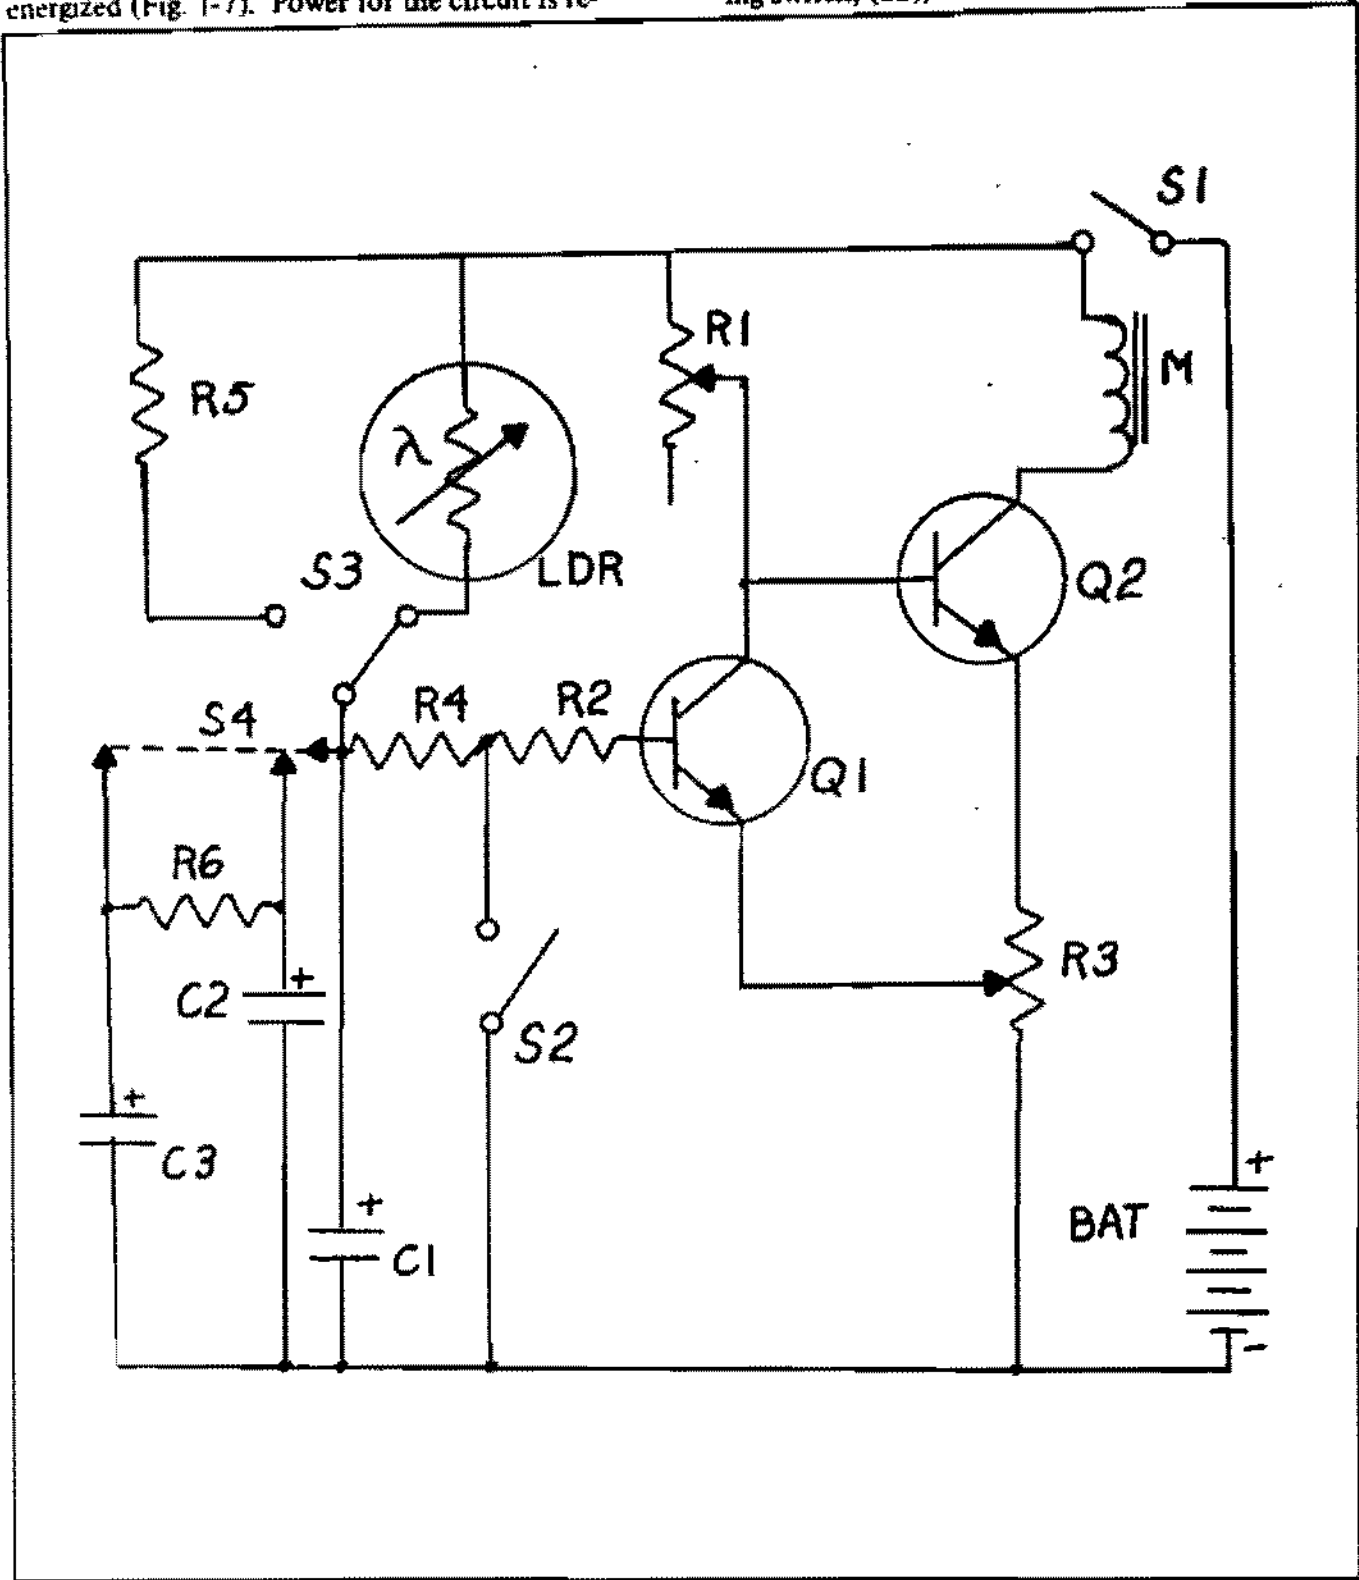
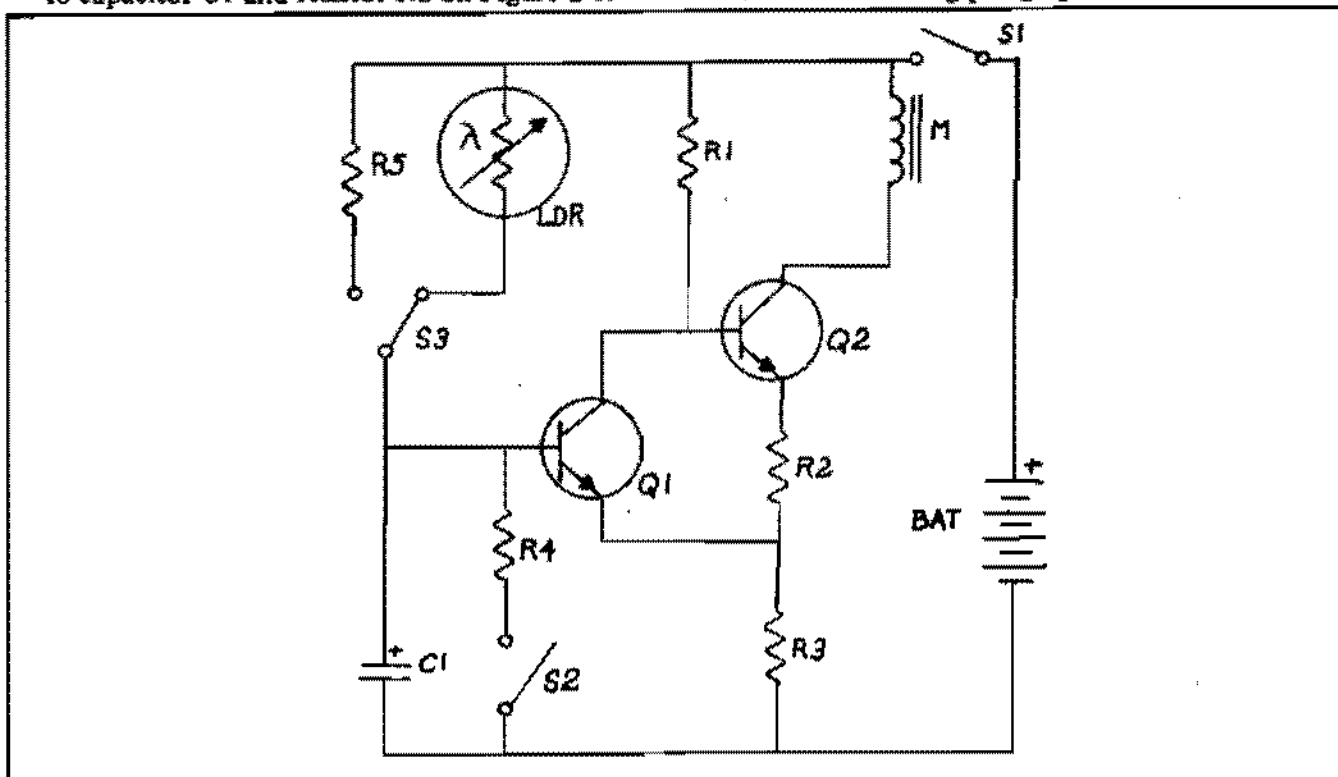
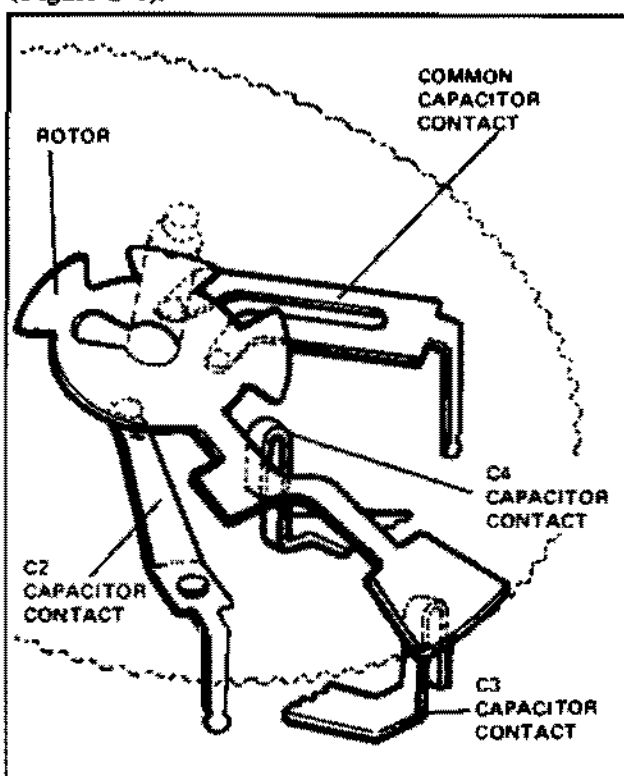

FIGURE 1-7 440/450 SHUTTER SCHEMATIC DIAGRAM
FIGURE 2-1 420/430 SHUTTER SCHEMATIC DIAGRAM
FIGURE 2-4 CAPACITOR SWITCH ROTOR
This circuit is referred to as a two transistor trigger; it utilizes a photoconductive cell to control the length of time that an electromagnet is energized (Fig. 1-7). Power for the circuit is re-
The electronic module for the Model 440/450 shutter is described in Section I. This shutter is employed in camera models 440 and 450 and is the more complex of the two shutters. Figure 2-1 is the schematic diagram of the simpler Model 420/430 shutter employed in camera models 420 and 430.
Comparison of Figures 1-7 and 2-1 will show the following differences:
1. Resistor R1 is variable on Figure 1-7 and fixed on Figure 2-1.
2. Variable resistor R3 on Figure 1-7 is replaced by two fixed resistors, R2 and R3, on Figure 2-1.
3. The resistor in series with the base of Q1 (R2 on Figure 1-7) has been deleted on Figure 2-1.
4. The time-determining components are limited to capacitor C1 and resistor R2 on Figure 2-1.
5. Capacitors C2 and C3, resistor R6, and switch S4 are not used on Figure 2-1.
The basic theory of operation is identical for the two circuits. The illumination-controlled photocell determines the length of time required to charge the R_c circuit (R4 and C1 on Figure 2-1). When the R_c circuit is charged, transistors Q1 and Q2 cut off the current flow through magnet M, and the shutter closing blade is released. The method by which these electronic functions are related to mechanical shutter operation is described in the following paragraphs.
In order to accommodate a wide latitude of film speeds and a variety of lighting situations, the shutter speeds as well as lens apertures must be adjustable. These adjustments are simplified by combining the switching of the timing components with the manual selections of the aperture. Molded into the back of the aperture wheel is a switch rotor (Figure 2-4).
The switch rotor and stationary contacts are represented by the arrowheads and dashed line designated S4 on Figure 1-7. The switch is illustrated on Figure 2-4.
The Model 440/450 shutter incorporates one additional major difference from the Model 420/430. In the Model 440/450, two variable resistors (R1 and R3, Figure 1-7) are used to provide a means of adjustment when the shutter is being calibrated. All of the resistors in the Model 420/430 shutter are of fixed value (Figure 2-1).
The schematic (Figure 2-1) of the Model 420/430 shutter shows its simplified timing circuit.